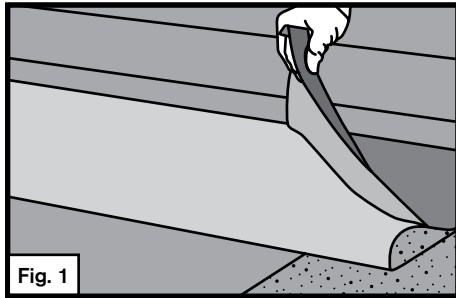

Fig. 1
**Step 5.** Nail the starter course at 6 inches on center across the center of the sheet using 1 inch diameter metal cap nails. See Fig. 1
All additional courses will require 2 rows of nails at 6 inches on center, evenly spaced vertically, and staggered down the center of the sheet. All end laps should be overlapped a minimum 6 inches. See Fig. 1
- Install the roof flange of the edge metal over the base sheet at the lowest point on the roof. Nail the edge metal 4 inches on center in a staggered pattern. See Fig. 1
**Step 5.** Fold the aligned sheet back half way exposing the release liner. See Fig. 1
**Step 6.** Peel release film at a 45° angle in a constant motion, while firmly holding the half of the sheet that is in contact with the roof in place as the liner is removed. See Fig. 1
**Step 5.** Fold the aligned sheet back half way, exposing the split release liner. See Fig. 1
**Step 6.** Remove release liner at a 45° angle in a constant motion, while firmly holding the half of the sheet that is in contact with the roof in place as the liner is removed. See Fig. 1